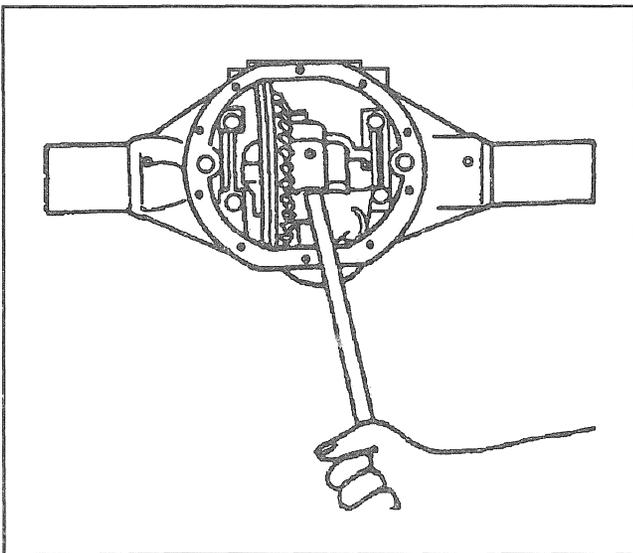
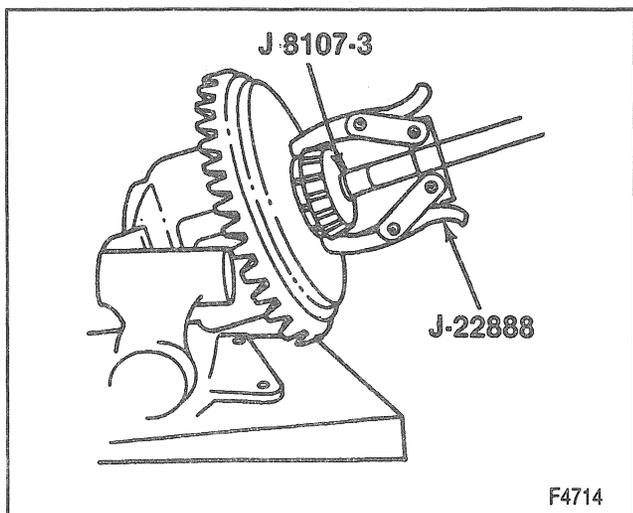

Figure 3—Removing the Differential Case
Figure 4—Removing Differential Side Bearings
13. Differential case (27).
- Pry the case from the axle housing at the differential "window" (Figure 3).
14. Bearing outer races (22), shims (21), and adjusting nut (17).
15. Differential side bearings using J 8107-3 and J 22888-20 (Figure 4).
16. Ring gear bolts (26).